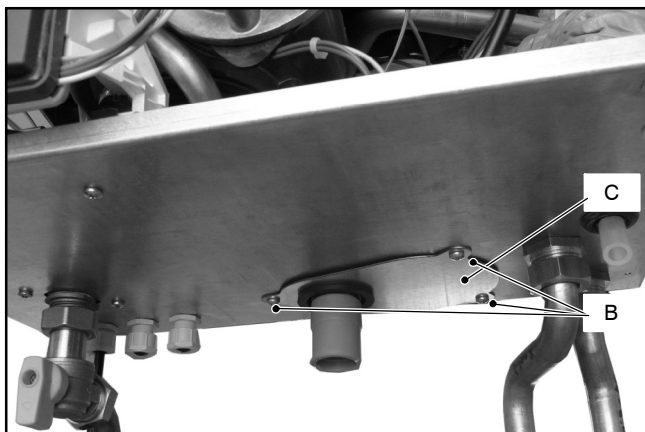

Fig. 14.2
- 1 Unscrew the screws *B* and remove the plate *C* (Fig. 14.2).
- 2 Unscrew the screws *B* and remove the plate *C* (Fig. 14.2)